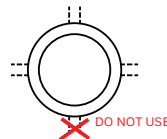

Fig. 1. V2MU mixing unit pulse line connections.
- (Refer to Fig. 1) To avoid condensate from back draft entering any pulse line of the Fuel/Air Ratio Module, downwards pointing pressure ports on the V2MU mixing unit or any other device shall not be used.
NOTE: DO NOT connect the Heat Exchanger to a downwards pointing port C on the Mixing Unit! Refer to Fig. 1.